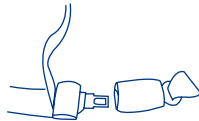

Fig. 18-1
- A lap belt that is manually adjusted and will remain tight while the vehicle is in motion is suitable for use with the Safety Seat. Pulling the belt through the buckle after the buckle is fastened tightens this type of seat belt. The center rear seat belt is most often this type of seat belt (Fig. 18-1).